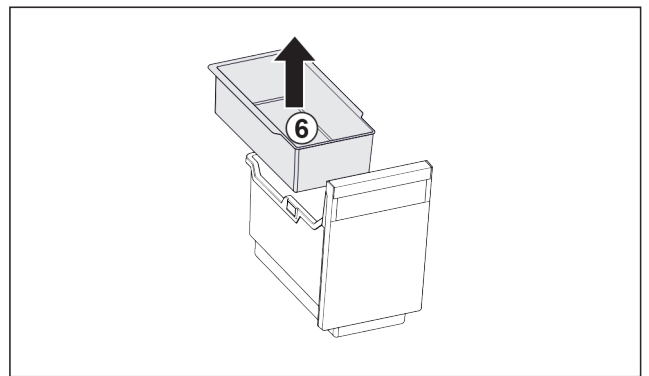

Fig. 97
- ▶ Remove the hang-on tray Fig. 97 (6).